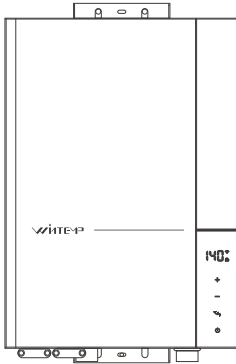
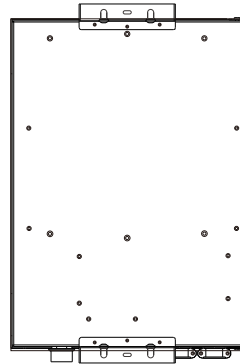

Fig 1
Fig 2
**Step 1:** Shows the front (Fig 1) and back (Fig 2) of the appliance for orientation.